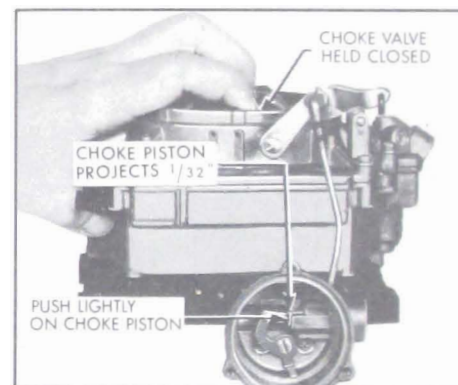

Figure 3-64—Checking Choke Piston Adjustment
12. Choke Piston Adjustment. With choke valve held tightly closed, and with choke piston pushed lightly towards its cylinder (to take up any linkage slack), check to see that choke piston is projecting from cylinder 1/32". See Figure 3-64.